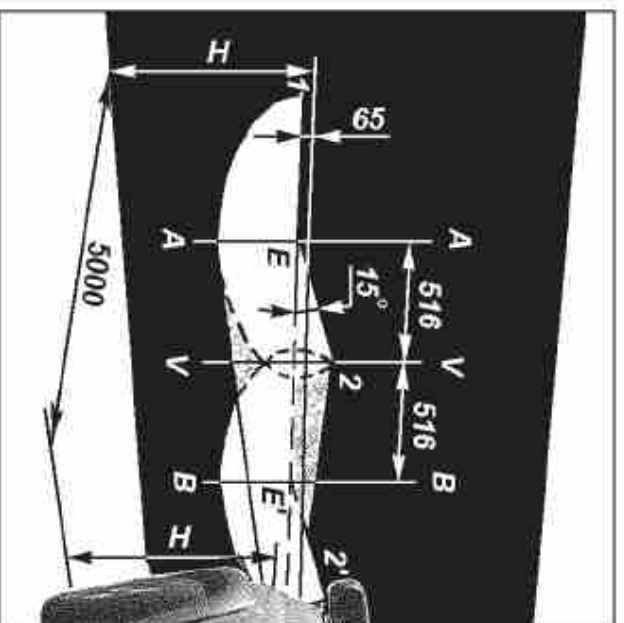

Fig. 9.32. Screen marking for headlights adjustment.
1. Park the motor vehicle, which should have a full fuel tank, its curb weight, normal tires pressure and loaded driver's seat (750 N/75 kgf), on an even level ground 5 meters far from the screen with special markings (Fig. 9.32).